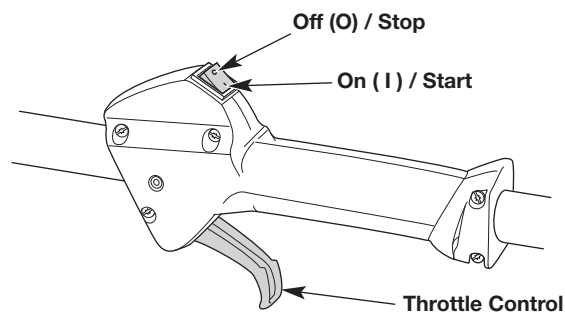

Fig. 9
NOTE: There is no need to turn the unit on. The On/Off switch is in the ON (I) position at all times (Fig. 9).
5. Squeeze and hold the throttle control (Fig. 9).
2. Press and hold the On/Off switch in the OFF (O) position until the engine comes to a complete stop (Fig. 9).
- NOTE:** There is no need to turn the unit on. The On/Off switch is in the ON (I) position at all times (Fig. 9).
6. Squeeze and hold the throttle control (Fig. 9).